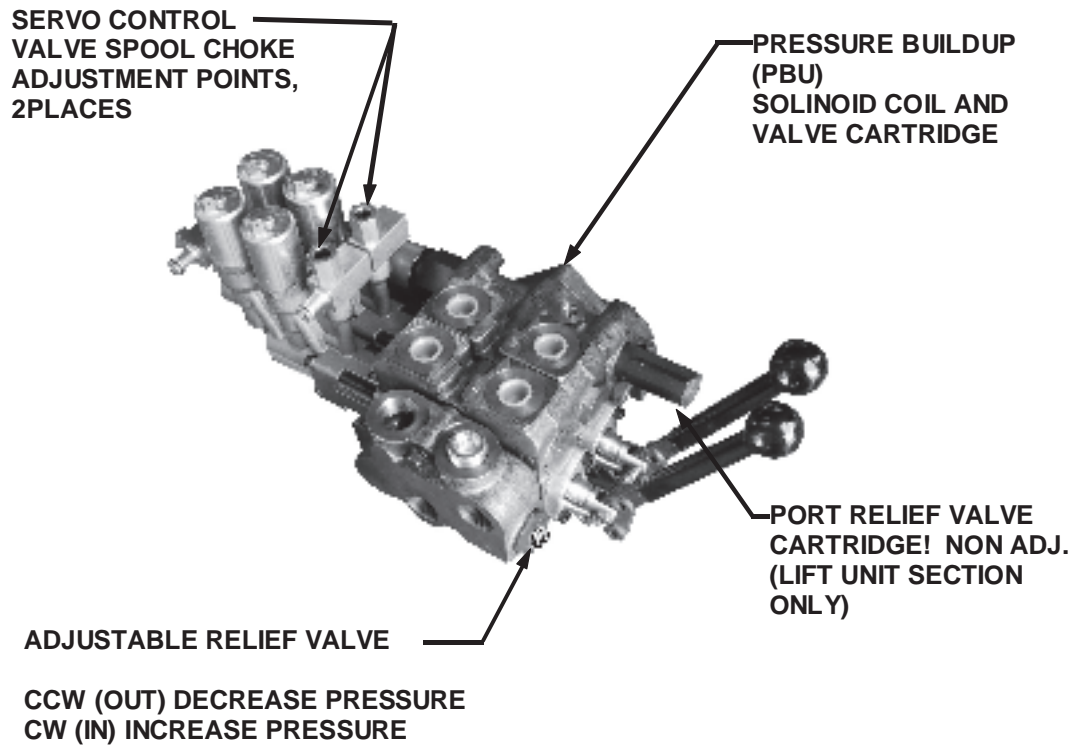

Figure 12
2. SERVO CONTROL VALVE ADJUSTMENTS (Figure 12)